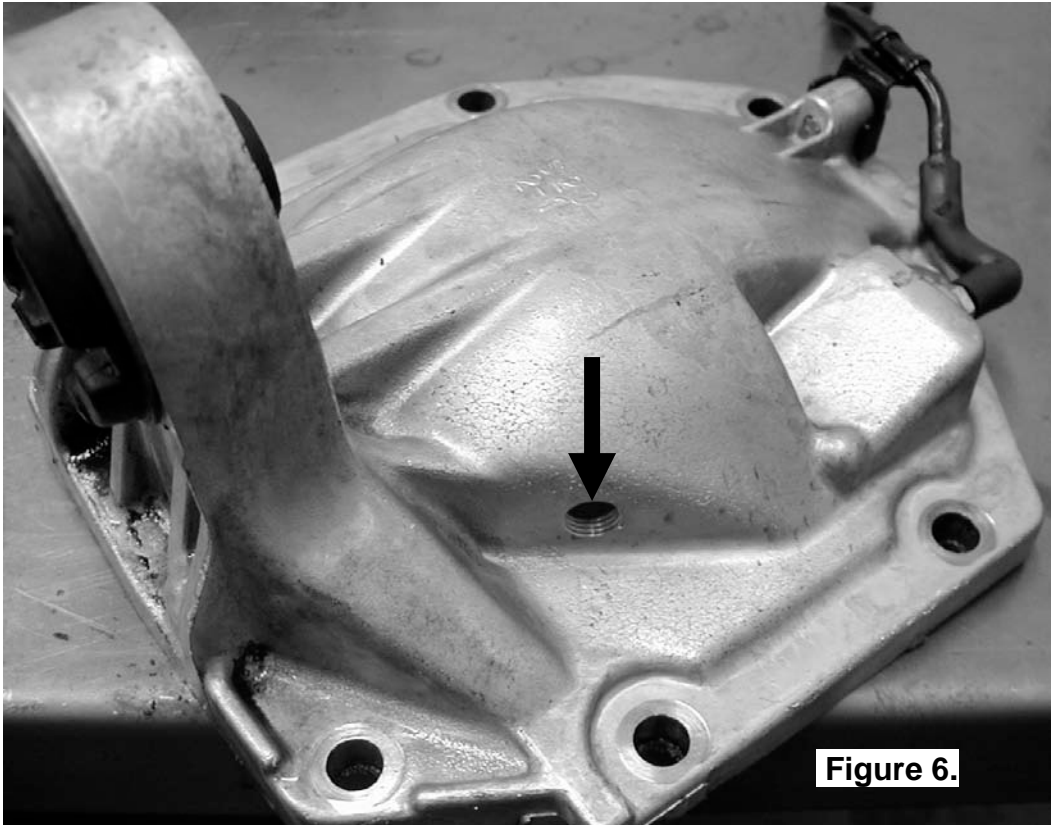

Figure 6.
- Mark a spot on the exterior of the differential cover plate in the position shown in Figure 6. (i.e., toward the bottom in the center of the flat area that will be accessible from the outside and clear of all moving components inside).